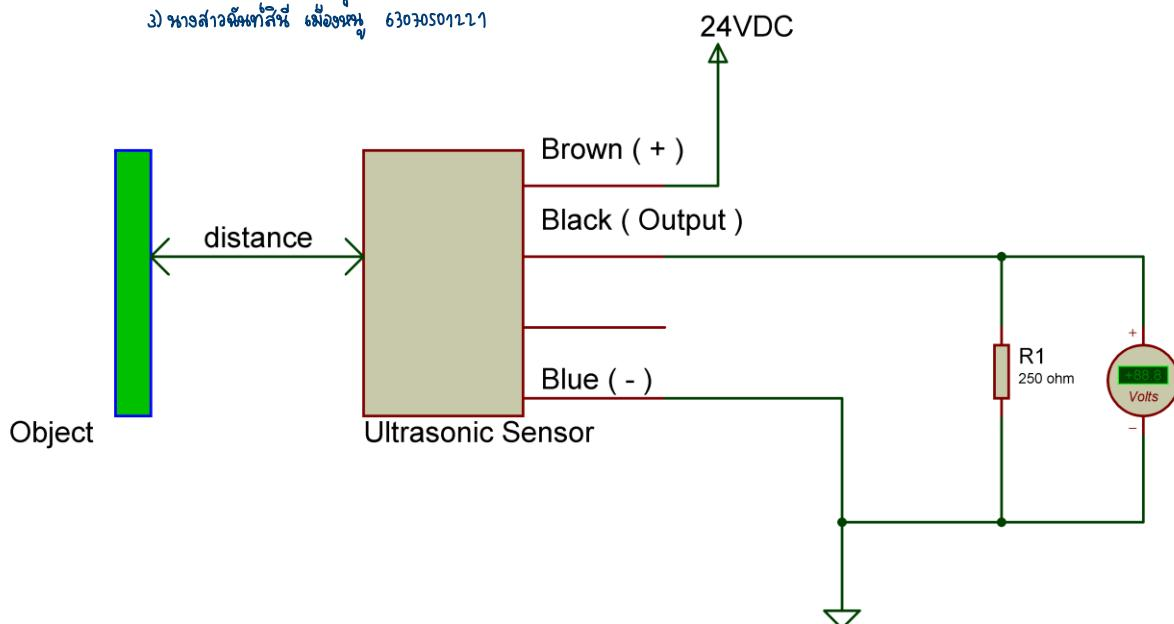

Figure 11: Circuit diagram of ultrasonic sensor circuit
1. Make an ultrasonic sensor circuit according to the circuit diagram shown in Figure 11.